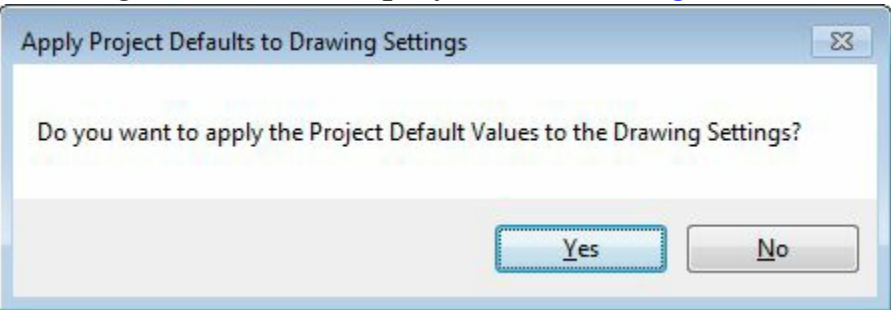

Figure-47. Apply Project Defaults to Drawing Settings dialog box
- Click on the **OK** button from the dialog box. The **Apply Project Defaults to Drawing Settings** dialog box will be displayed; refer to Figure-47.